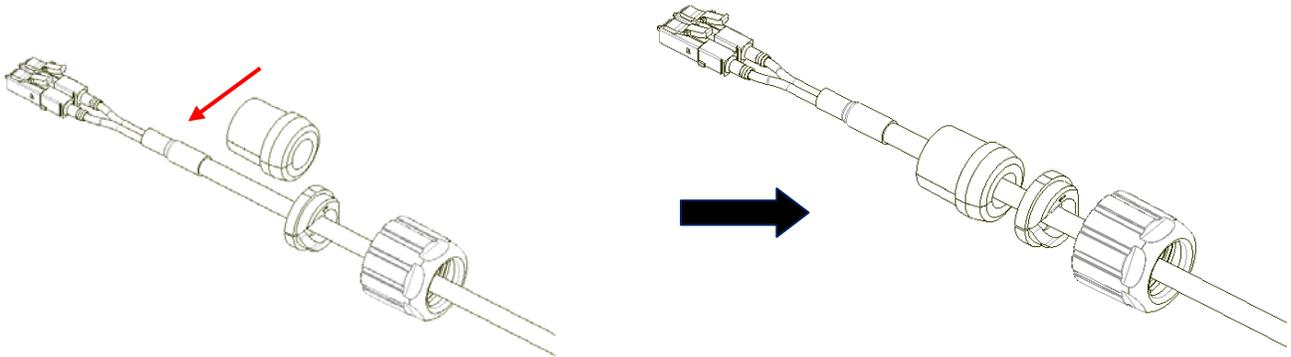

Figure 6
1. Insert the “split rubber gland” from side of the cable (Fig 6). (Inner diameter of rubber gland is in the range of 6 to 8mm)